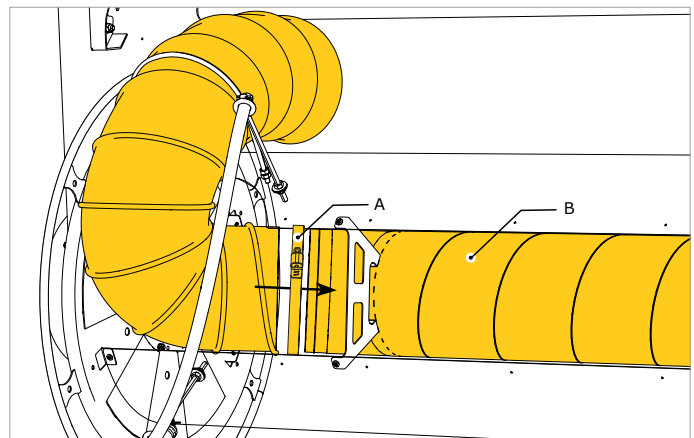

Fig. 4.5 Mounting the hose
- Bend hose into a natural soft curve and fasten it to the inside duct (B) by using a hose clamp (A) (fig. 4.5).